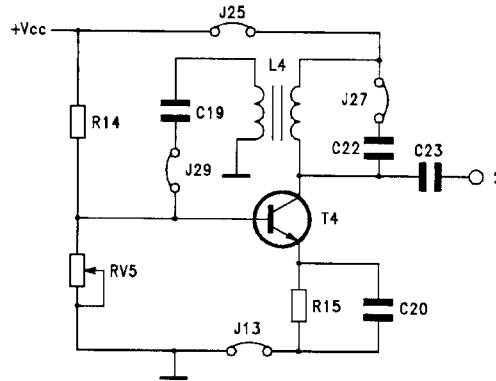

fig. B35.8
- Remove all jumpers, insert J13, J25, J27, J29 to produce the circuit of figure B35.8.